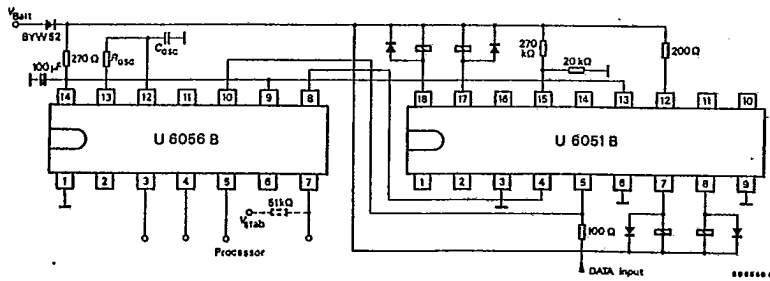

Fig. 17
- Combinations with U 6051B/U 6052 B and U 6056 B, Figs. 17 and 18.